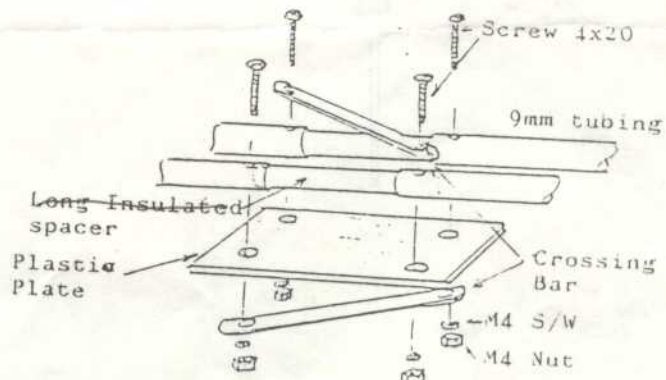

Figure 6 Circuit Board Detail
5.3 Attach the four sections of phase line tubing to the plastic plate with two 7x50mm insulating spacers and two crossing bars. (Refer to Fig.6)